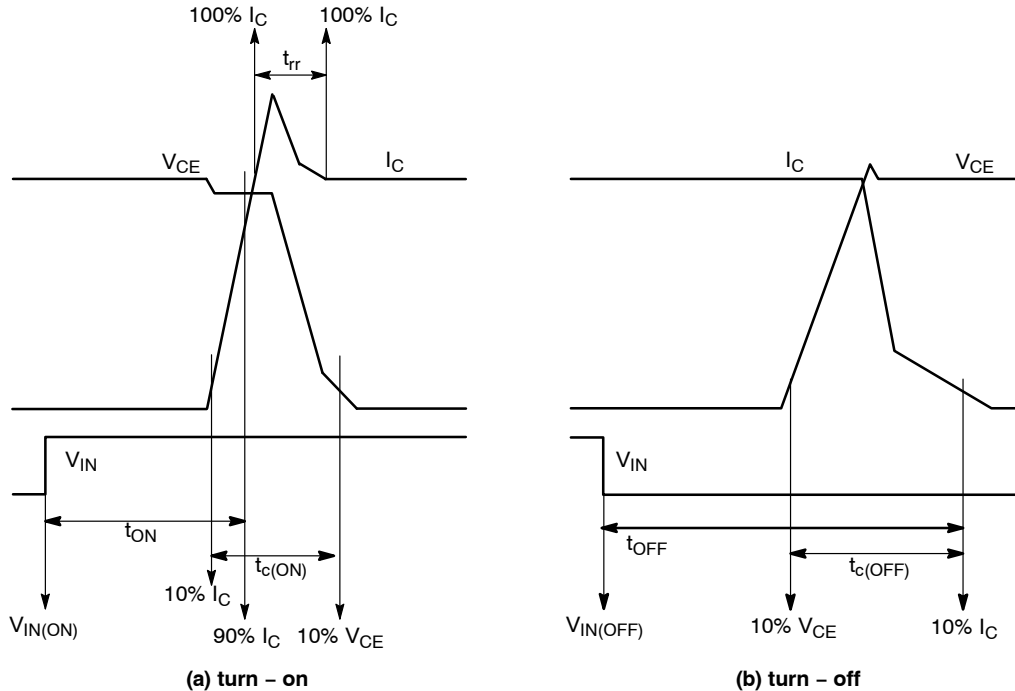

Figure 4. Switching Time Definition
7.  $t_{ON}$  and  $t_{OFF}$  include the propagation delay time of the internal drive IC.  $t_{C(ON)}$  and  $t_{C(OFF)}$  are the switching time of IGBT itself under the given gate driving condition internally. For the detailed information see Figure 4.